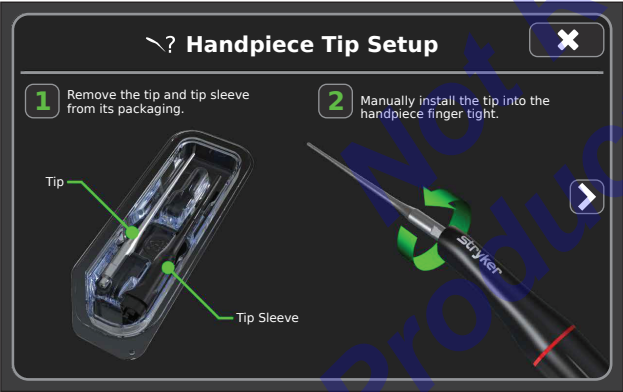

Figure 41 – Handpiece Tip Setup Screen
3. Touch the NEXT button or PREVIOUS button to navigate through the setup information (Figure 41).